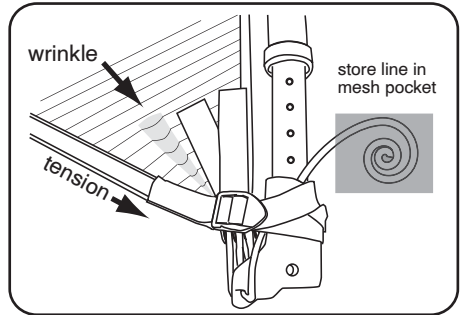

Fig. 8: Tension tack strap and store downhaul line in mesh pocket.
b) Tension the strap until you see a wrinkle extending out from the tack, see Fig 8.